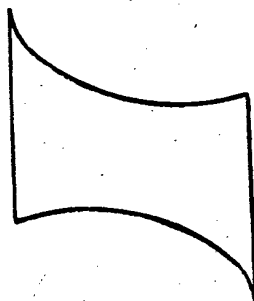

Figure 15: CRO screen image appearing in the course of the transmitter frequency adjustment and checking of calibration error.
5. Tune the audio signal generator, changing its frequency to a frequency at which the image shown in Fig. 15 appears on the cathode ray oscilloscope screen.